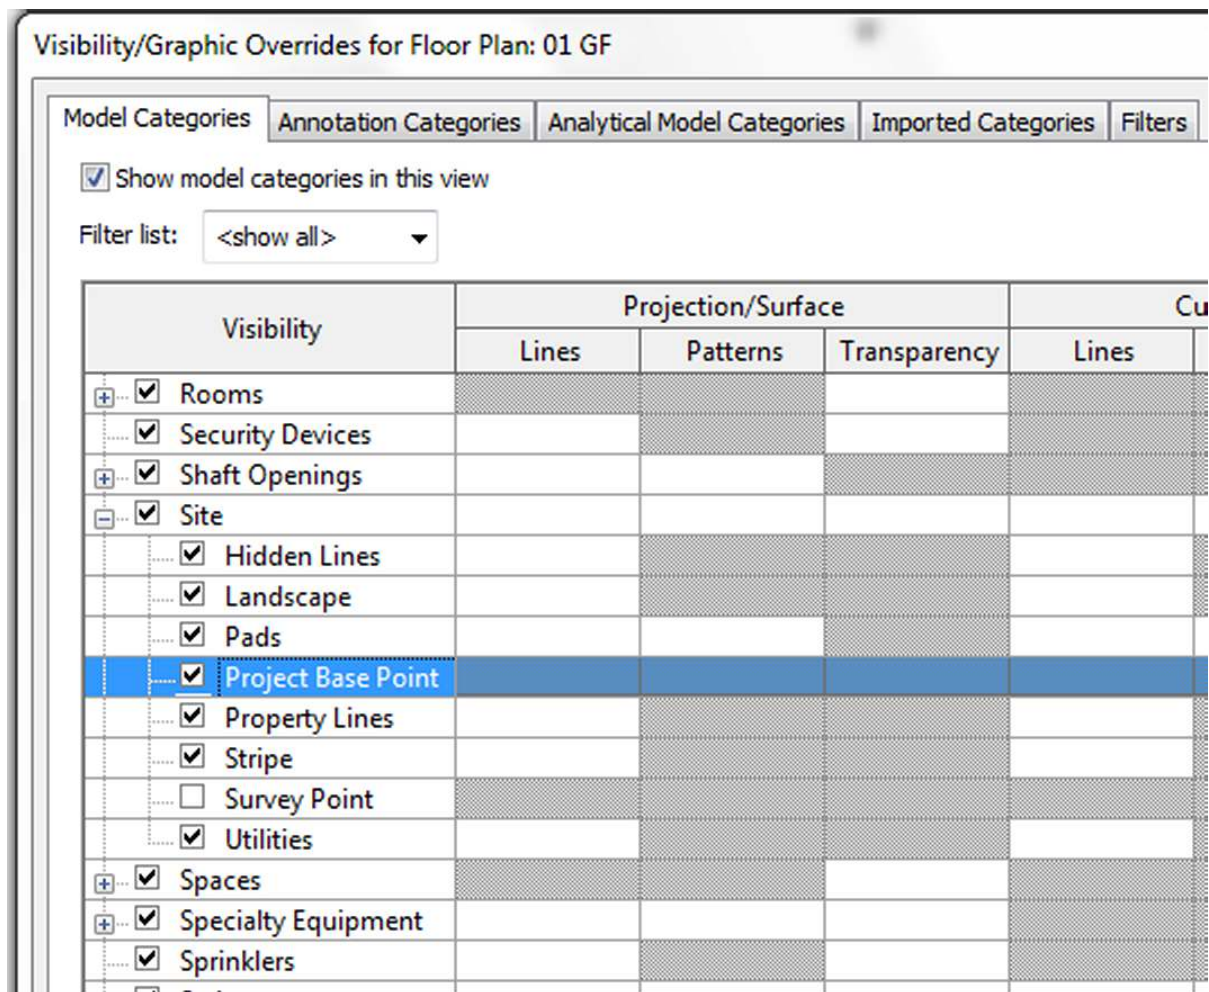

Fig. 1.22 – Visibility/Graphics Overrides
3. On Model Categories tab, expand Site and select Project Base Point → OK (Fig. 1.22).